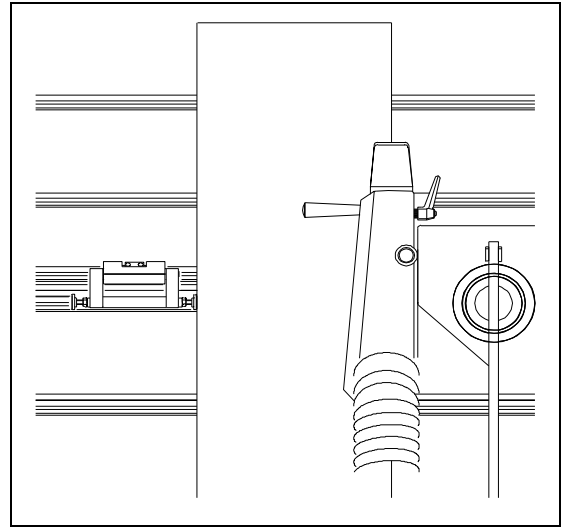

Figure 25
- 4 Push the stop against the left side of the reference gauge and read measure (Figure 25).